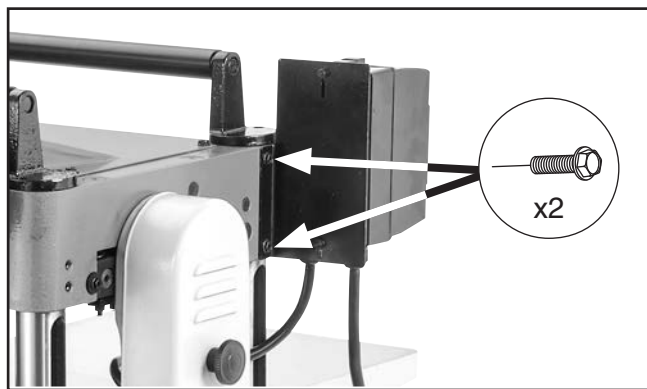

Figure 19. Magnetic switch installed (Models G0453W and G0454W).
8. **G0453W & G0454W Only:** Mount magnetic switch assembly to side of headstock with (2) pre-installed M6-1 x 12 flange bolts (see **Figure 19**).